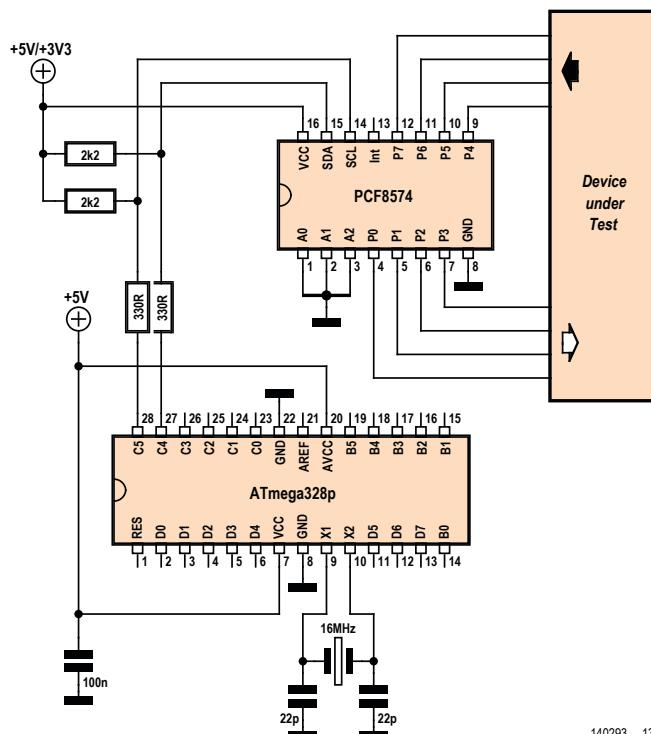

Figure 3. Using the PCF8574 port expander.
**Figure 3** shows the bus connections and a potential application of the port expander as a digital tester. The port expander can be powered from 3.3 V or 5 V according to the operating voltage of the item under test. Any desired digital circuit with four inputs can be driven using the output port pins P0 to P3. For example, you could apply an incrementing digital value to these four pins to obtain all possible combinations of signal levels on the circuit inputs. Cables and connectors can also be tested the same way. Every open circuit and short circuit can be detected.